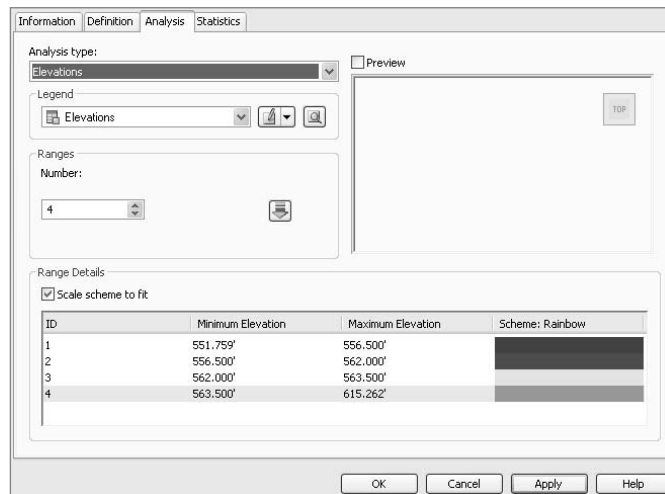

Figure 7.21
6. In the middle of the dialog, change the number of ranges to 4, as shown in Figure 7.21, and then click the blue Run Analysis button.
9. Continue working through the Minimum and Maximum elevations as shown in Figure 7.21, assigning colors as you go. The colors from top to bottom should be 160, Red, Yellow, and Green.